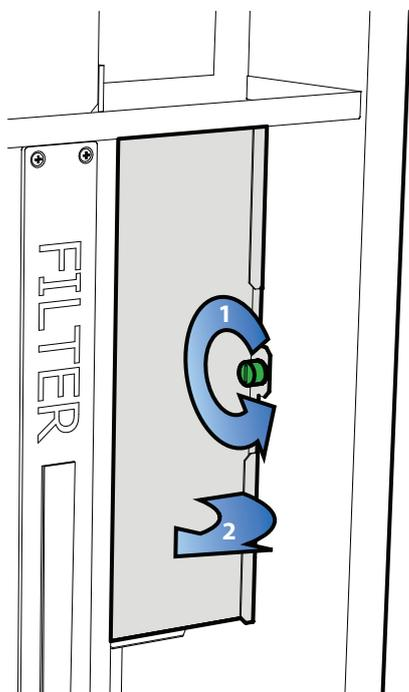

Fig. 13
2. Pull out the electric quick-release contact for the motor (see Fig. 13).